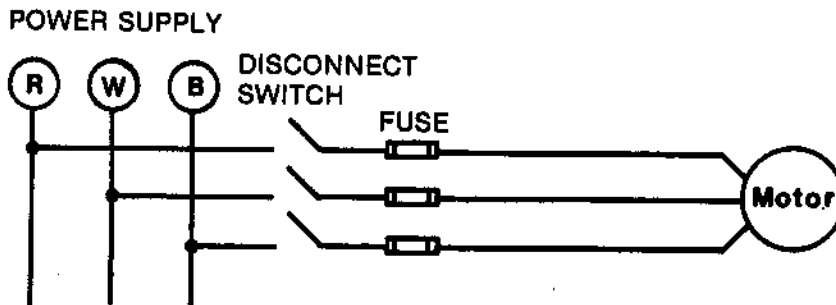

Figure 4(A): A Simple Motor Control
In Figure 4(A) the motor can be started by closing the switch manually and it can be stopped by opening the switch.